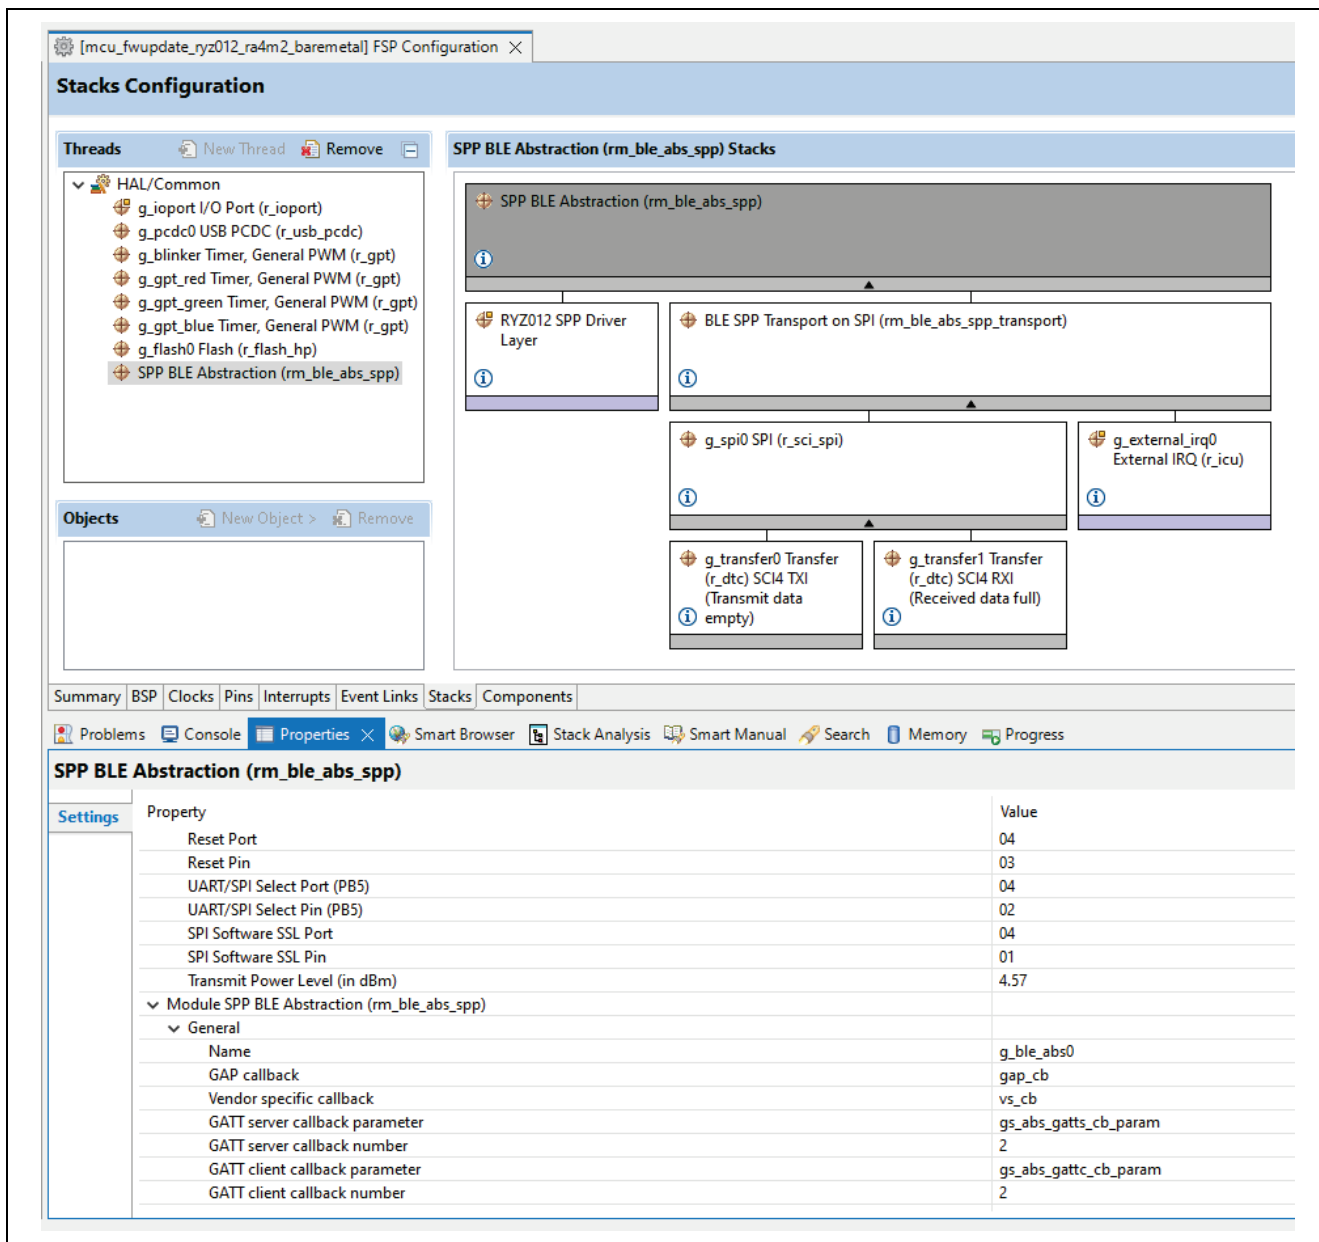

Figure 31. SPP BLE ABS Module
**PMOD1 with RYZ012.** Users can modify these configurations according to their own specific hardware requirements. See Figure 31, SPP BLE ABS Module for more details.